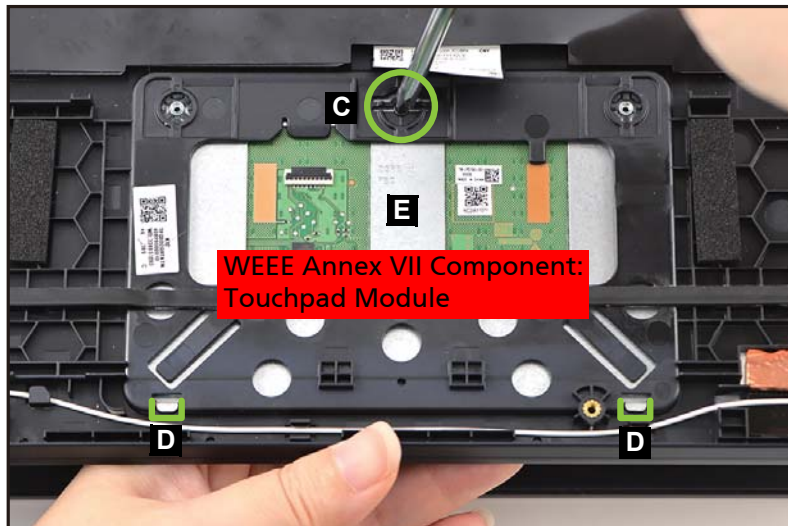

Figure 1-35. Touchpad Module Removal
4. Using the screwdriver, push the guide pin (C) firmly to release it from the top assembly (Figure 1-35).
5. Slide the touchpad module slightly to disengage it from the bottom latches (D), and then remove the touchpad module (E) from the top assembly (Figure 1-35).